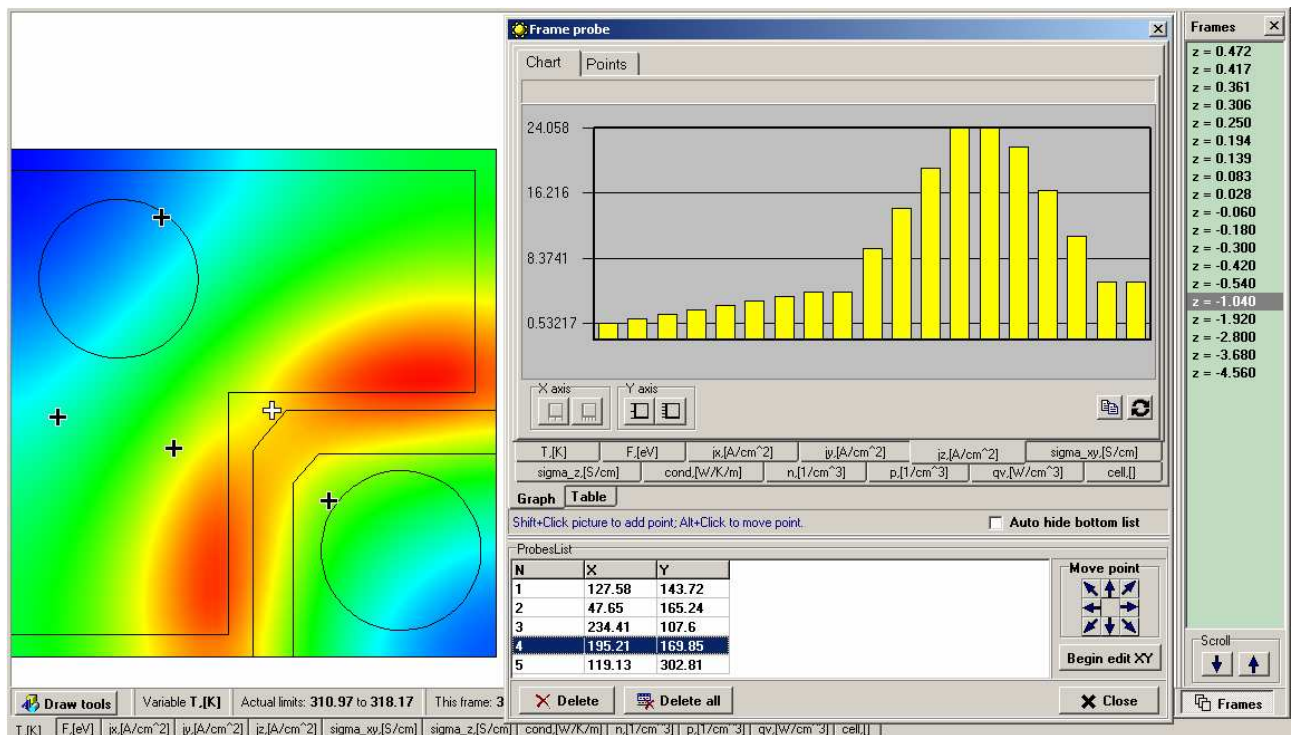

Fig. 9
- **Frame Probe** mode provides visualization of 1D distributions along the vertical die cross-section in Z-Planes mode. Visualization of frame probes is available via the Probe -> Frame Probe menu item on top of the window. This opens the Frame Probe dialog window (see Fig. 9) which provides a bar diagram of all variables along the vertical cross-section, specification of new cross-sections which are defined by their x and y coordinates, and displacement of the existing ones. The bars on the diagram correspond to the discrete Z-planes.